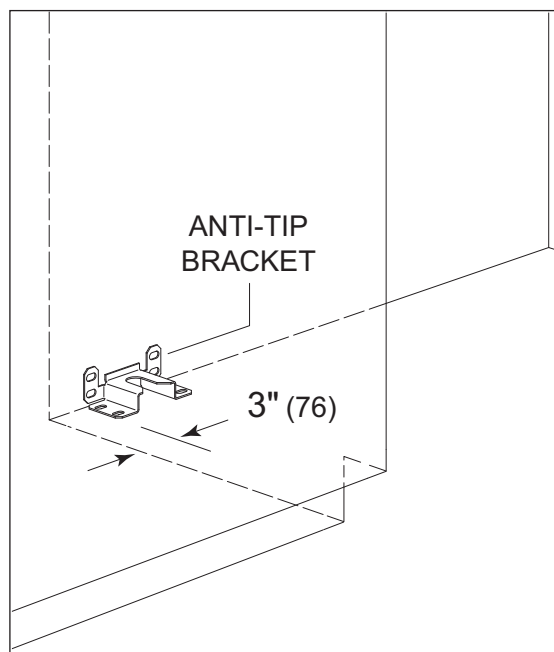

Figure 2-6. Anti-Tip Bracket Location
To ensure the anti-tip bolt engages the bracket, position the bracket 3" (76) from the left side of the opening. Refer to Figure 2-6.